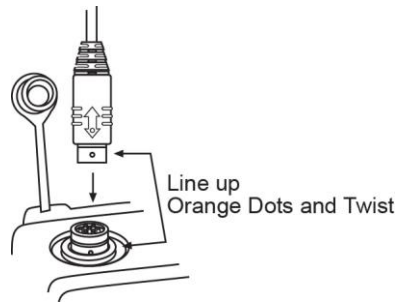

Figure 2: Push Back Cable Connection
- The U9920-GPB is designed for airport push back operations and can be connected to an aircraft intercom system. Once connected, up to four belt station (U9910-BSW or U9912-BSW) users can communicate to the pilot of the aircraft by pressing the PTT button on the belt station. A Push Back Cable is required between the U9920-GPB and the aircraft (see below: **Figure 2** – connection illustration, and **Table 3** – Push Back Cable matrix.)